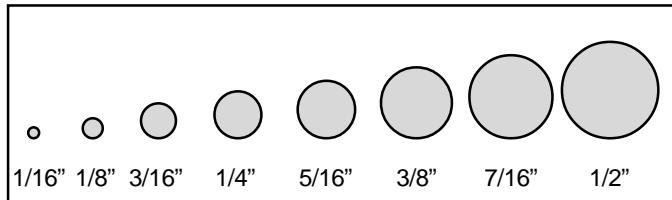

Figure 8.3—Diameter key.
8.4 Determining Fuel Size Fuels can be assumed to have a circular cross sectional area. Consequently, the diameter can be estimated from the cut section. See figure 8.3.